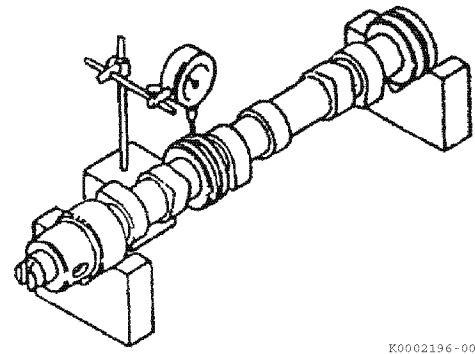

Figure 6-74
1. Use V-blocks and a dial indicator to check camshaft bend (Figure 6-74). Place the indicator on the center bearing journal.